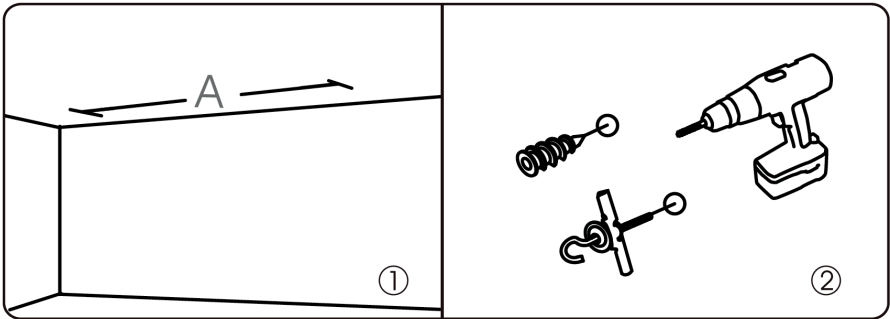

Fig. 13
1. For the suspended installation of the screen, get screw hooks and, if necessary, dowels to match your ceiling structure. If you are unsure, ask for professional advice, e.g. at a DIY store. Attach these hooks to your ceiling correctly and make sure that the hooks are parallel to the wall. (Fig. 13)